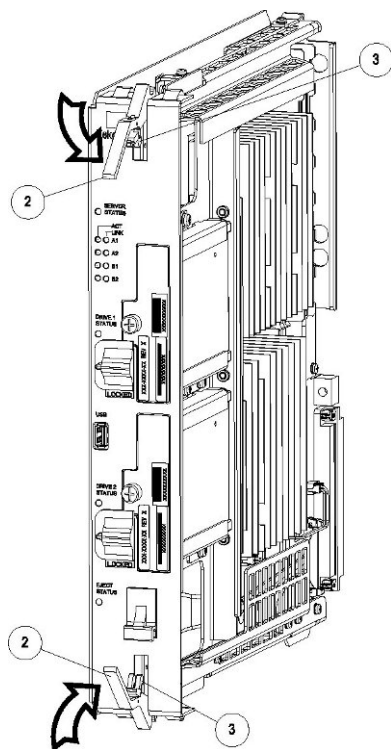

Figure 12: E5-APP-B Card Inject Levers
2. Grasp the upper and lower card Inject/Eject (I/E) lever release (3) just underneath the I/E lever, and press it to meet the I/E lever. This is the mechanical interlock for the card (see Figure 12: E5-APP-B Card Inject Levers).
3. While holding the I/E interlock and lever, pull the levers (2) away from the card until they are parallel to the floor.
5. Push in the top and bottom inject/eject clamps (see Figure 12: E5-APP-B Card Inject Levers).